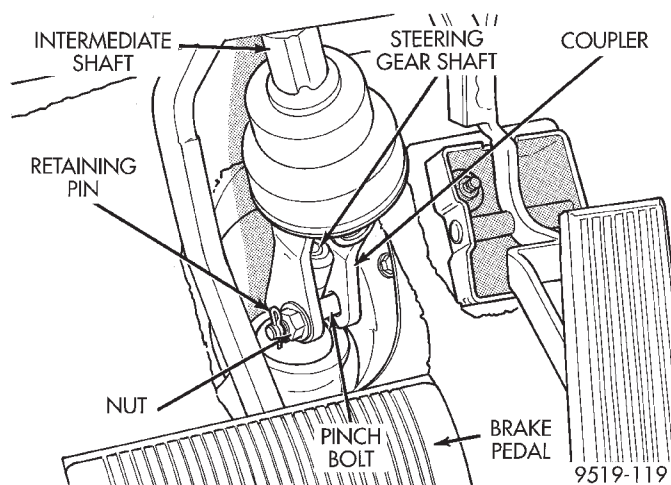

Fig. 16 Intermediate Shaft Coupler To Steering Gear Shaft
(21) Remove routing clip holding wiring harness to jacket of steering column.
(22) Remove retaining pin in steering column coupler pinch bolt (Fig. 16). Loosen the upper to lower steering coupler pinch bolt retaining nut and remove pinch bolt from steering coupler (Fig. 16). **Pinch bolt nut is caged to coupler and is not removable.** Then separate steering coupler from steering gear.
(4) Ensure front wheels of vehicle are positioned straight-ahead, and steering wheel master serration in steering column shaft is positioned at 12 O Clock. Then assemble the lower intermediate shaft coupler to the steering gear input shaft. Tighten the coupler pinch bolt nut to a torque of 27 N·m (240 in. lbs.). **Be sure to install steering coupler pinch bolt retaining pin (Fig. 16).**